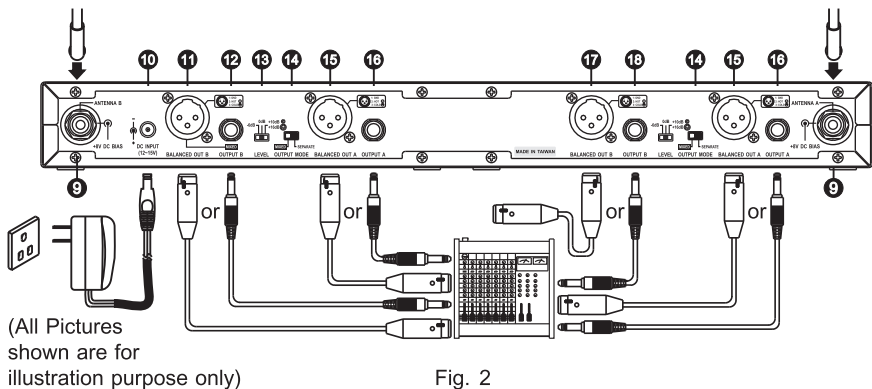
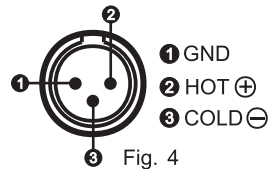

Fig. 2
Fig. 4
1. Antenna Connection: Connect an antenna to each of the antenna connectors ❹ on the rear panel. Fig. 2. Antenna connectors provide an 8-volt DC bias to work with MIPRO antenna boosters. If the antenna cable is longer than 10 meters, it is advisable to install an antenna booster to ensure optimal reception.
2. Power Connection: Connect the power supply to the receiver DC input ❺ and plug it into an AC power source. Fig. 2.
- (A) When connecting the audio output to the MIC IN jack of the mixer or amplifier, switch output level switch ❻ to 0 dB. When connecting to LINE IN jack, set output level switch to +16 dB when using balanced XLR connector or set output level switch to +10 dB when using unbalanced (6.3 Ø) connector. When connecting to an amplifier with non-standard gain, set output level switch to -6 dB when there is distortion at the maximum output level.
- (B) Output for electric guitar/bass: Use a 6.3 Ø phone cable. One end to receiver's unbalanced output jack and the other end to guitar/bass amplifier's input jack. Switch the output level to the "+10 dB" position.
- (C) Use an XLR cable to connect the receiver audio output jacks ①⑤⑦ to a mixer or an amplifier's MIC IN jack.
- (D) Use a PHONE cable to connect the unbalanced phone jacks ⑫⑬⑭ to a mixer or an amplifier's LINE IN jack.
- (E) To mix the multiple channel outputs, connect to the mixed output jacks ⑪ or ⑫ and switch the output switch ⑭ to the MIX position.
- (F) See Fig. 4 for a 3-pin XLR connector wiring diagram.